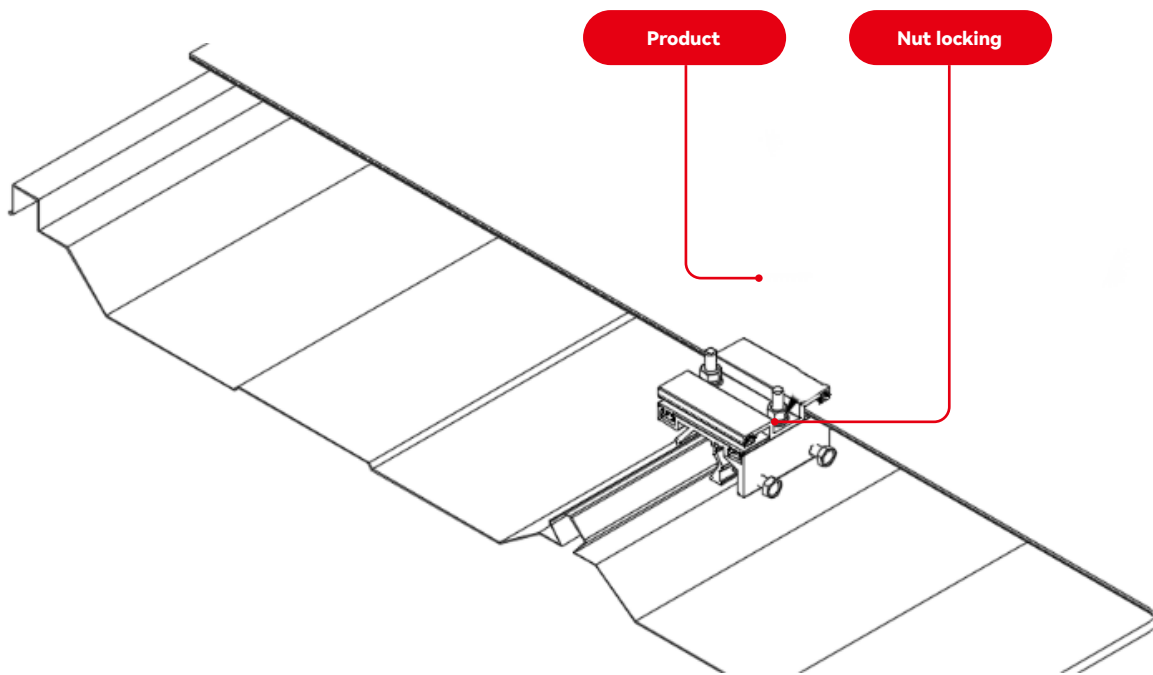

FIGURE 12
⑧ Finally, cover the first product with the clamp cover on the first row of clamps and fasten it with washers and nuts (Figure 12) to complete the installation of the first product